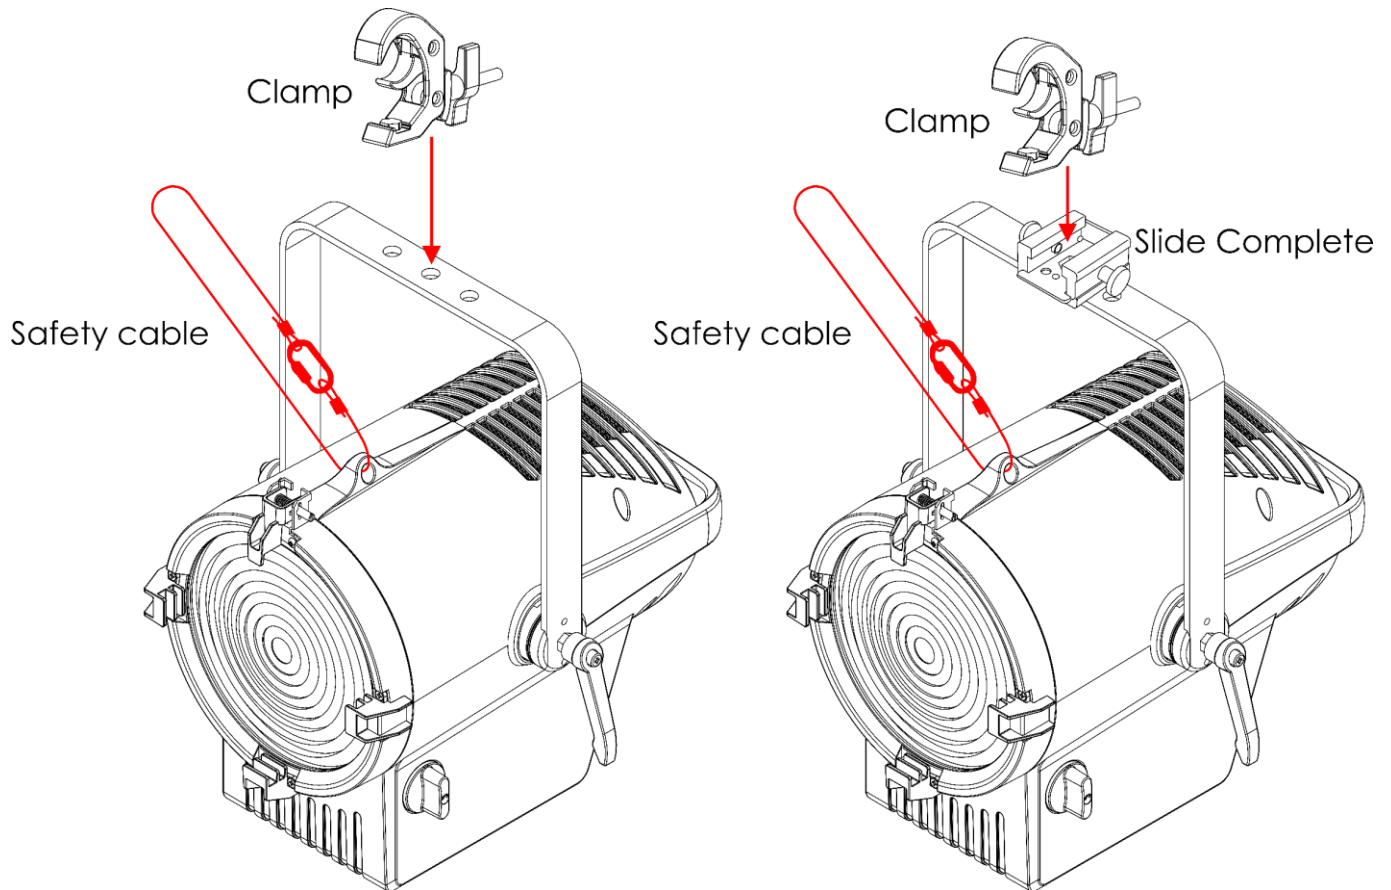

Fig. 07
- 13) Use a clamp to attach the device to the supporting structure, as shown in Fig. 07. Make sure that the device cannot move freely. Optionally, you can use the Slide Complete to attach the device.
- 14) Secure the device with a secondary suspension, for example a safety cable. Make sure that the secondary suspension can hold 10 times the weight of the device. If possible, the secondary suspension should be attached to a supporting structure independent of the primary suspension. Put the safety cable through the **safety eye (07)**, as shown in Fig. 07.